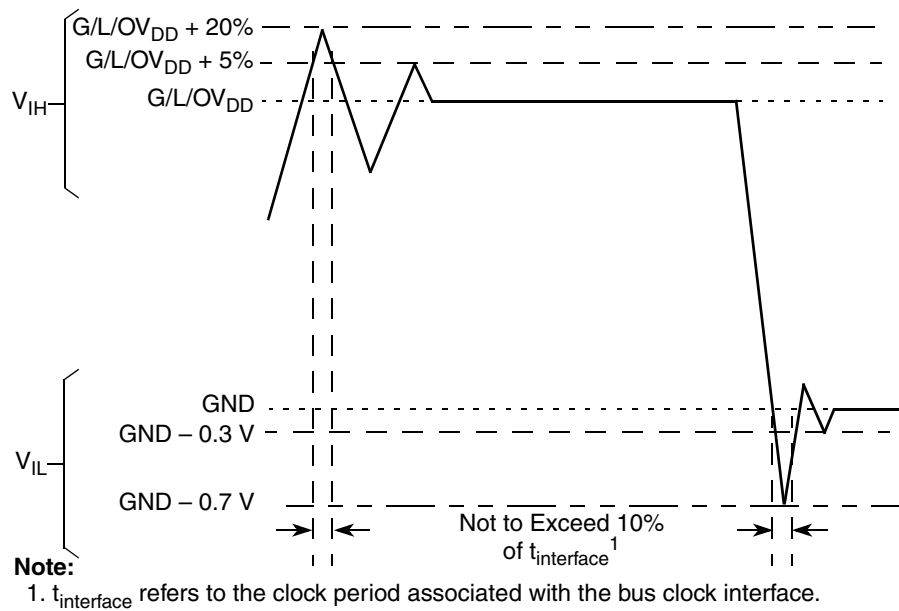

Figure 2. Overshoot/Undershoot Voltage for GV_{DD}/OV_{DD}/LV_{DD}
- ⁵ (M,L,O)V_{IN} and MV_{REF} may overshoot/undershoot to a voltage and for a maximum duration as shown in Figure 2.
Figure 2 shows the undershoot and overshoot voltages at the interfaces of the MPC8343EA.